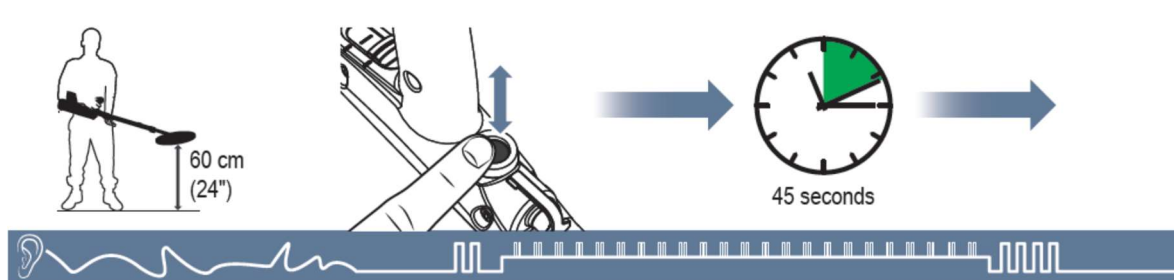

Figure 5: Noise Cancel
- Press and immediately release the black Noise Cancel button, as shown in figure 5.